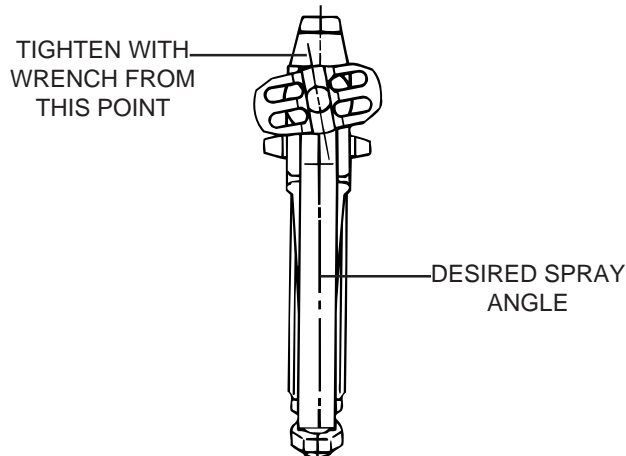

Figure 4.- Spray Gun Tip Guard Position Before Tightening.
- Loosen the tip nut slightly. Turn the tip guard about 1/16 turn counterclockwise from desired spray angle. See Figure 4.